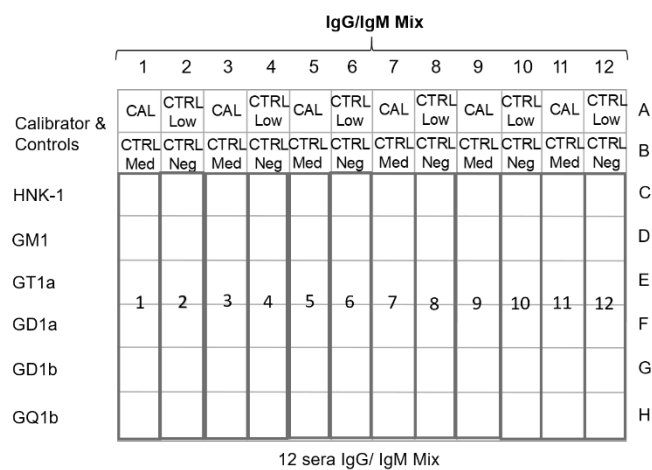
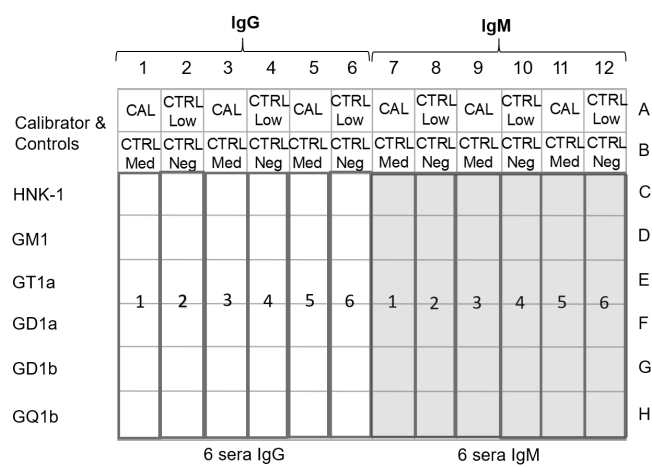

Figure 1A: ≤ 24 sera / Kit (2 MP / Kit)
Figure 1B: 2 profiles / serum, ≤ 12 sera / Kit (2 MP / Kit)
- 4a. Pipet 100 μL of calibrator into the well A1 (refer to figure 1A or figure 1B for option 2).
- 4b. Pipet 100 μL of medium control into well B1, of low control into well A2 and of negative control into well B2 (refer to figure 1A or 1B).
Note for option 1: If more than three strips per run are used, calibrator and controls can be tested in duplicates (see figure 1A).
- 4c. Pipet 100 μL of diluted sample 1 into wells C1-H1 (refer to figure 1A or 1B).
- 4d. Pipet 100 μL of diluted sample 2 into wells C2-H2 (refer to figure 1A or 1B).
- 4e. Pipet 100 μL of diluted samples 3-24 (for option 1) or 3-12 (for option 2) into subsequent wells (refer to figure 1A or 1B).
- 7'. Add 100 μL of either enzyme label IgG or IgM to the respective wells (refer to figure 1B).